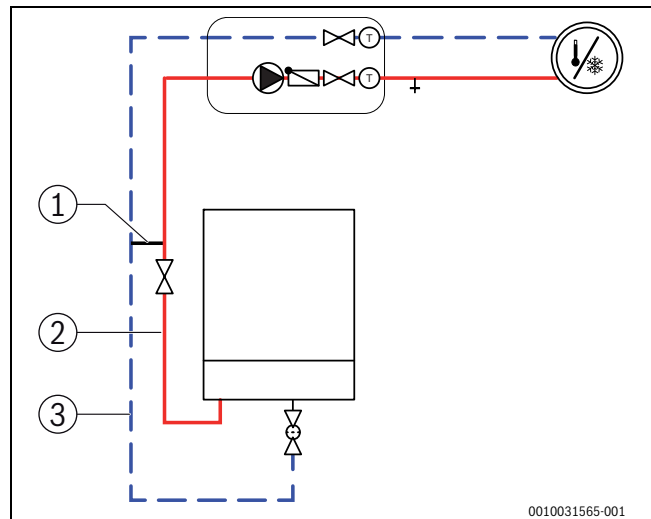

Fig. 8 Indoor unit with heating circuit and bypass
- ▶ Install the bypass [1] between the flow [2] and return [3] (→ Fig. 8) to hydraulically uncouple the heating pump from the heating circuit. Observe the prescribed dimensions and clearances during assembly (→ Tab. 4).